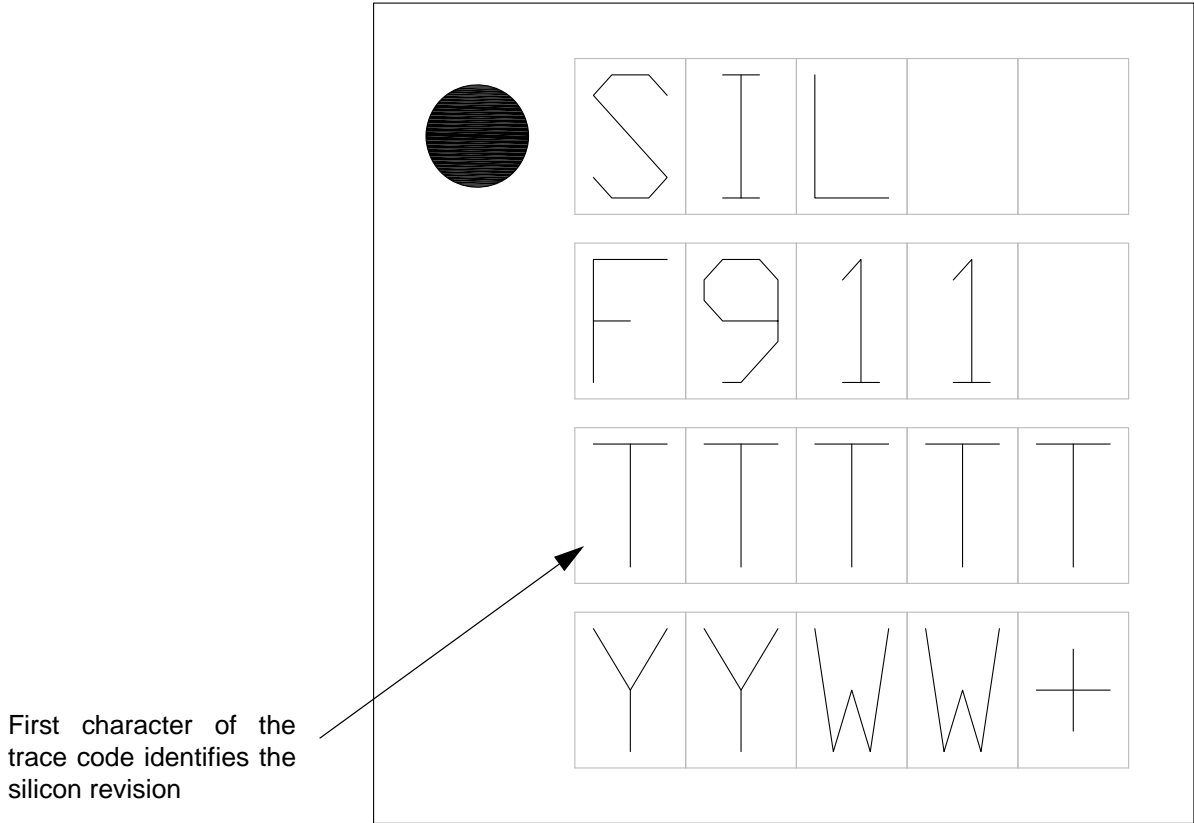

Figure 3.3. QFN-24 Package Marking Diagram
1. Starting with silicon revision C, the ordering part numbers have been updated to include the silicon revision and use this format: "C8051F912-C-GM". Package marking diagrams are included as Figure 3.3 and Figure 3.4 to help identify the silicon revision.